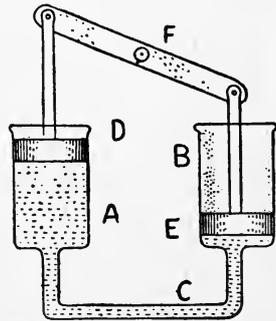

FIG. 50.
**117.** A *continuous* current of electricity may be compared to the flow set up by a centrifugal pump, while a *pulsating* current resembles the flow from a common piston pump. The flow of *alternate* currents may be compared to the flow of water in the apparatus shown in fig. 50. A and B are glass cylinders of equal diameter, the bottoms of which are connected by means of a pipe C, which is of smaller diameter